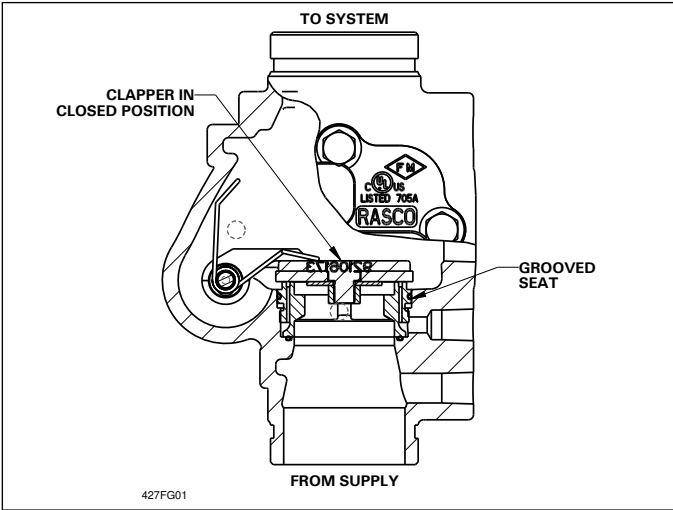
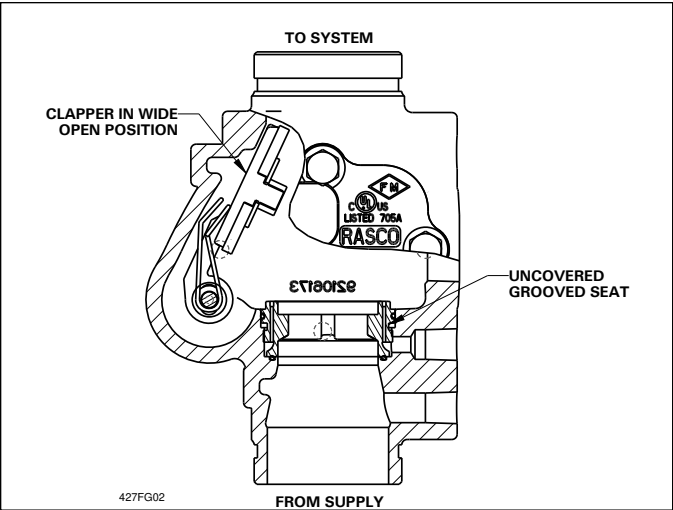

Fig. 1
Fig. 2
The Reliable Model E & E3 Alarm Check Valve in its closed and open positions is shown in Fig. 1 and Fig. 2. The closed position is maintained as long as the water pressure in the sprinkler system piping above the Alarm Valve is greater than, or equal to, the supply pressure. A flow of water into the system piping, resulting from the discharge through one or more fused Automatic Sprinkler(s), causes the Clapper to rise off its Grooved Seat and permits water from the supply to enter the system for distribution on the fire.
- b. Model E valve with US Standard Flanged Inlet and Grooved Outlet (Fig. 1)